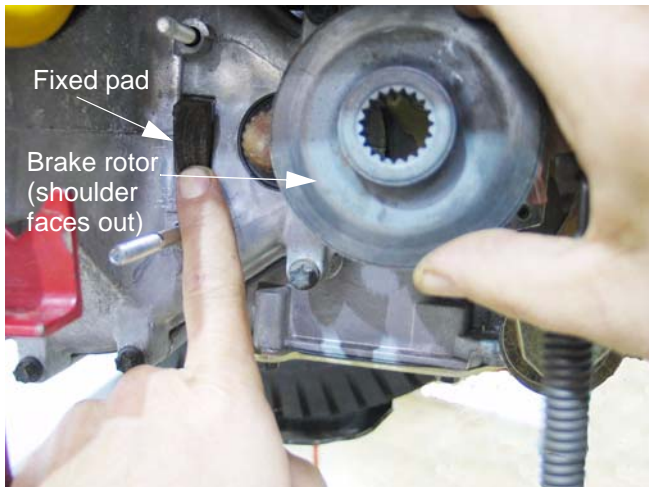

Figure 32.19
32.19. The rotor should slip-off of the splined shaft, providing access to the fixed brake pad. See Figure 32.19.